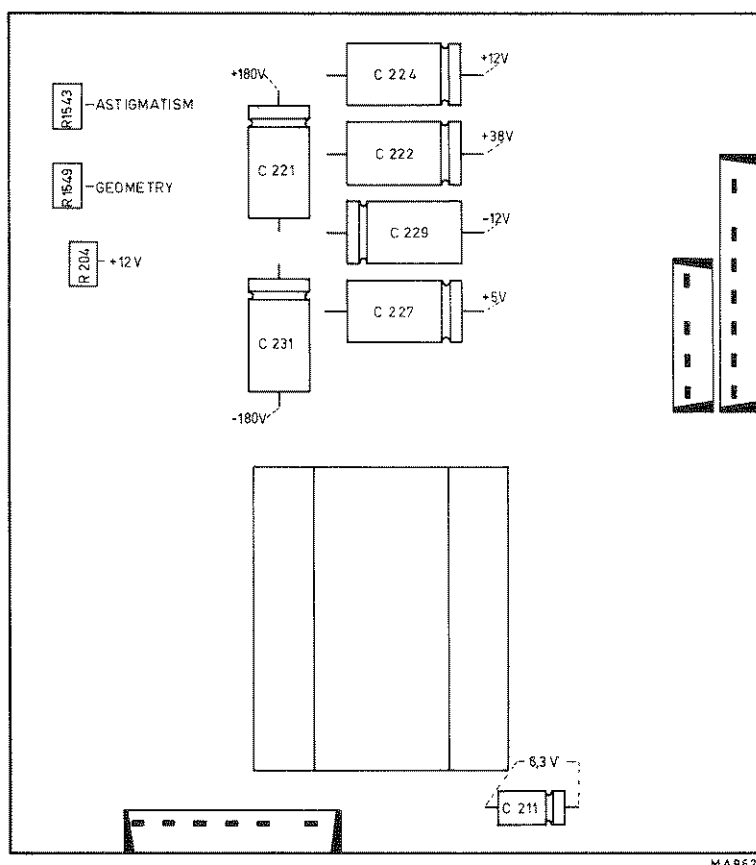

Fig. 3.15. Adjusting and checking the power supply
- Check that the voltage across capacitor C224 is +12 V, + or –0,25 V; if necessary readjust potentiometer R204 (Fig. 3.15).
C211 (Fig. 3.15)	6.3 V, $\pm 0,6$ V
- Adjust FOCUS potentiometer R6 and astigmatism potentiometer R1543 for a sharp and well-defined trace (Fig. 3.15).
- Check that the displayed vertical lines are as straight as possible. If necessary readjust potentiometer R1549 (Fig. 3.15).